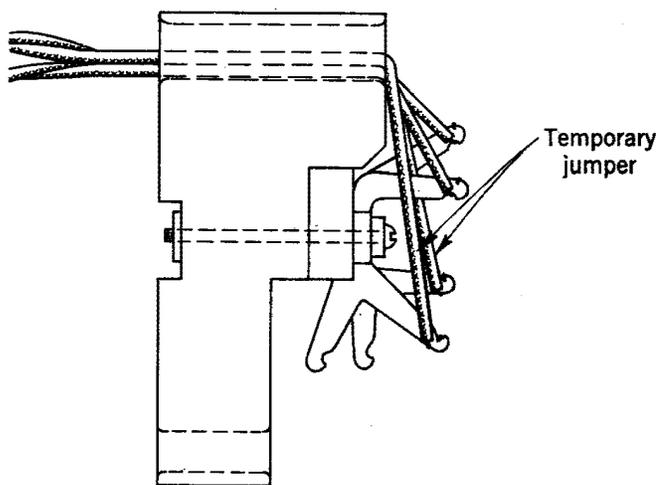

Fig. 18
12.06 The temporary jumpers should be connected to the extra terminals as shown in Fig. 18. Where local instructions specify that either the upper or lower terminals should be used for the permanent jumper, identify the temporary jumper for subsequent removal by